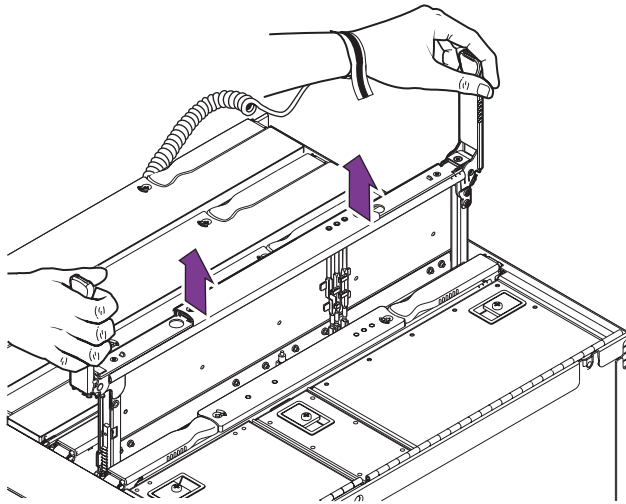

FIGURE 9-3 Raising an L2 Repeater Board
11. **Grasp the ejector levers and pull upwards to raise the L2 Repeater board until the green panels are visible (FIGURE 9-3).**
12. Grasp the green panels and raise the L2 Repeater board out of the system (FIGURE 9-3).
5. Reposition your grip on the levers and then push down on the levers to lock them into place (FIGURE 9-3).